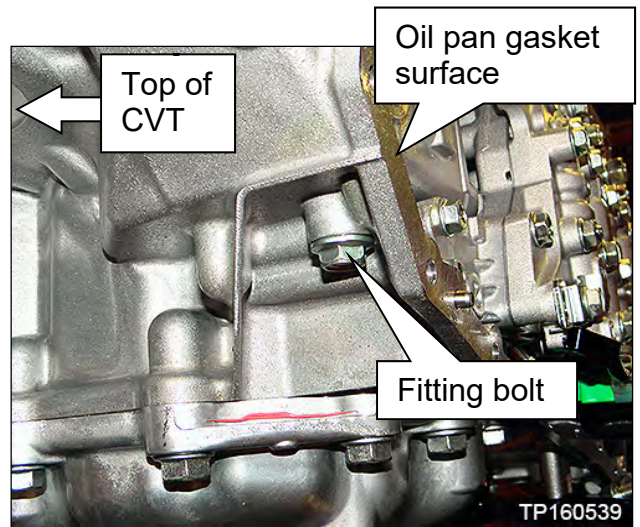

Figure 50
- a. Remove the fitting bolt located above the left rear corner of the oil pan gasket surface (Figure 50).